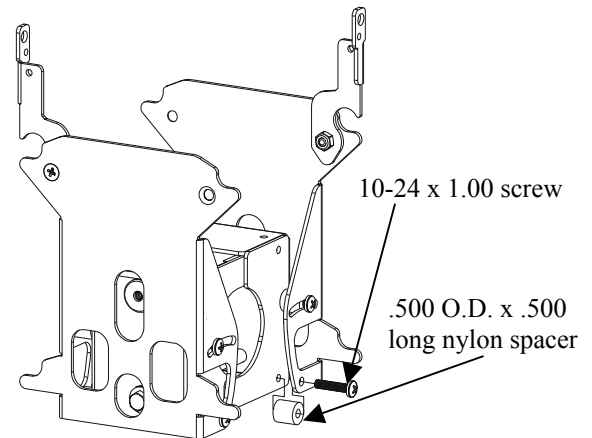

Figure 5
3. For horizontal pole mounting; remove eight tilt adjustment screws, reposition the tilt bracket as shown in Figure 5, and insert nylon spacers. Secure using 10-24 x 1.00 screws provided.